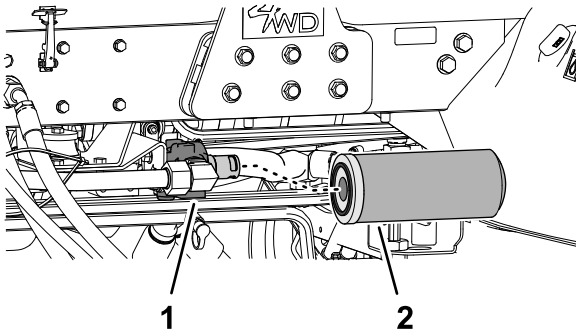

Figure 164
1. Clean the area around the return filter and filter head (Figure 164).